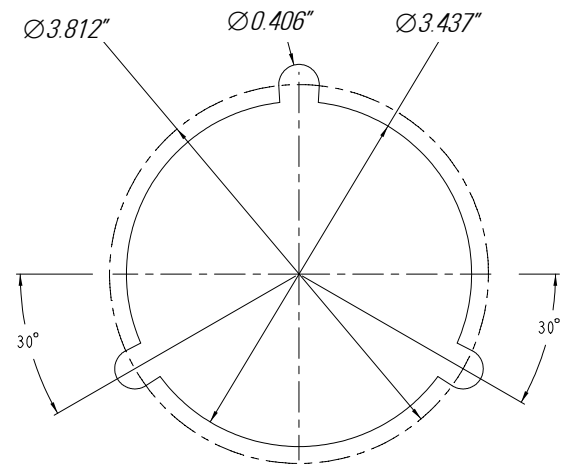

Figure 3. Hole cutout and drill pattern.
- c. Drill three 0.406" (10.3mm) diameter holes in the enclosure door about a 3.812" (96.82mm) diameter per Figure 3.